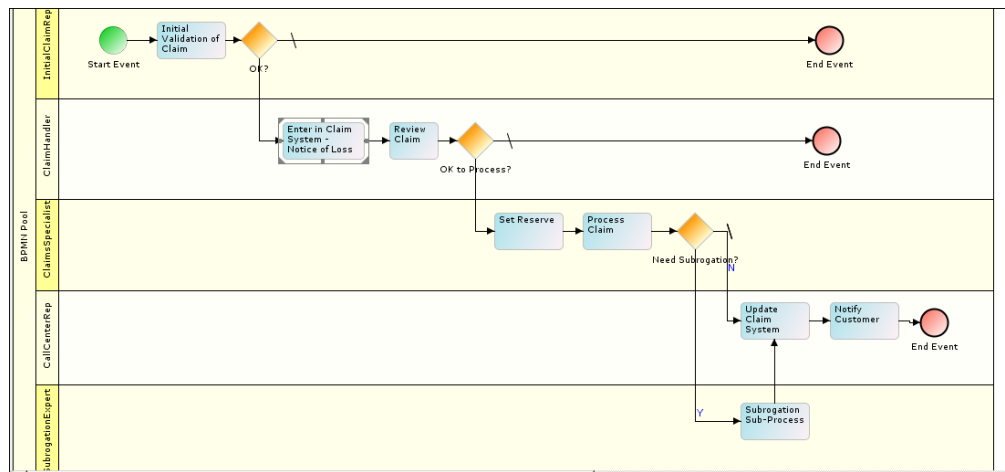

Figure 21: Connecting all BPMN Elements
3. Connect all BPMN elements with appropriate control flow (see Figure 21).